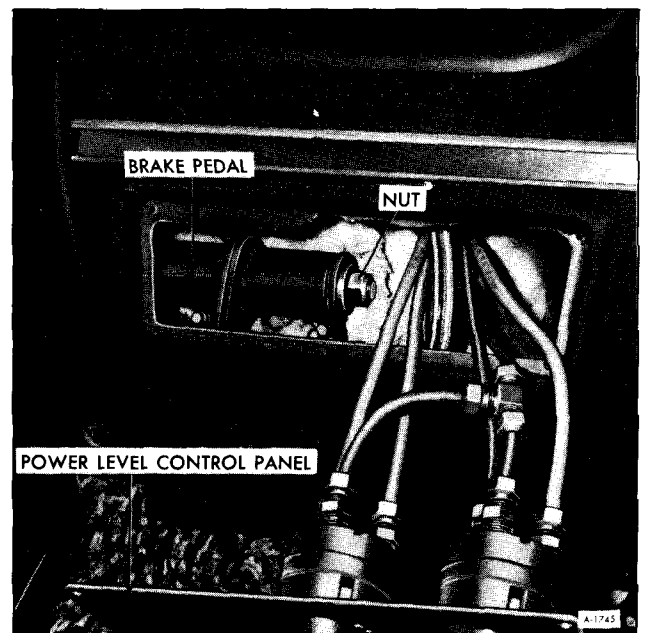

Figure 31—Brake Pedal Assembly (Right Side)
4. Remove nuts from each end of pedal assembly (figure 31).